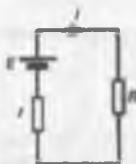

Figure 13.35
- (iv) determine the value of the current from the equivalent circuit shown in Fig. 13.35, i.e.